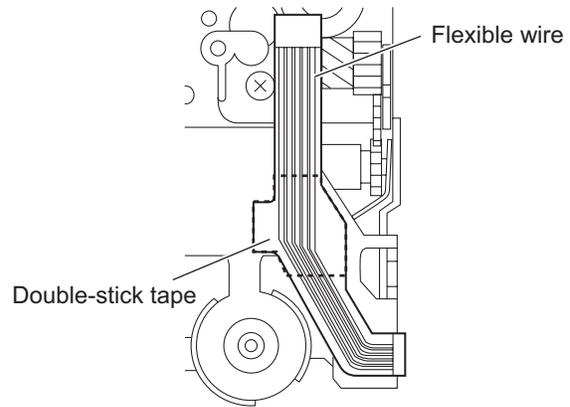

Fig.10
3.2.6 Removing the front unit (See Figs10 to 12)
- (1) From the bottom side of the mechanism section, remove the double-stick tape fixing the flexible wire. (See Fig.10.)